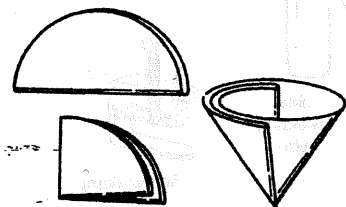

Figure 2. Folding the filter paper
1. Fold a filter paper circle in half and then quarters. Open the folded paper to form a cone with one thickness of paper on one side and three thicknesses on the other. Put the paper cone into a filter funnel (Figure 2).